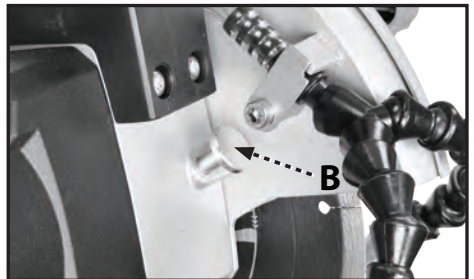
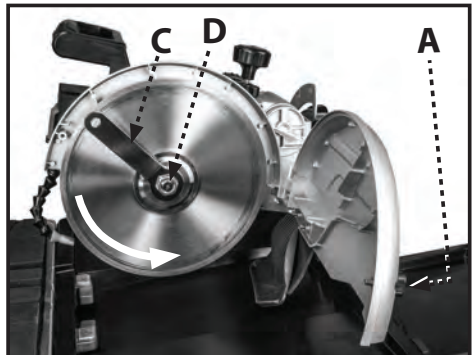

FIGURE 20
FIGURE 21
1. Loosen the blade cover lock knob (A, Fig. 21).
2. Swing the blade cover (9) open
4. Depress the blade spindle lock (B, Fig. 20) and use the blade wrench (C, Fig. 21) to loosen the arbor lock nut (D, Fig. 21)
7. Place the new blade on the arbor so that the arrow on the blade is pointing in the same direction as the arrow on the blade cover. (See Figure 21)